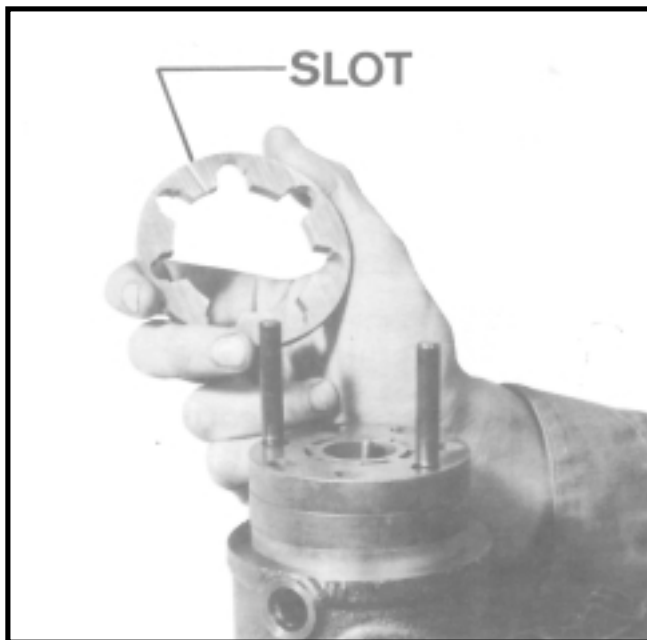
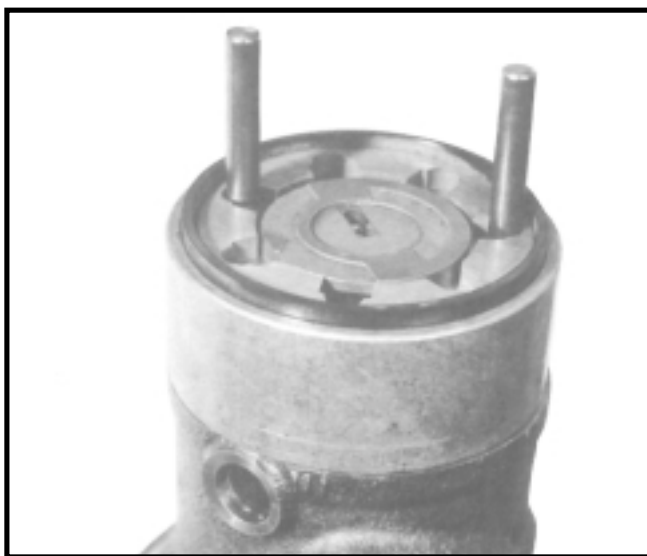

Figure HGA-26
Figure HGA-27
21. Install commutator ring (33) over assembly posts and onto manifold (32), make sure slot side is down. (See Figure HGA-26).
22. Install rotor seal (36) and seal retainer (35) over rotor set (31) and down against housing.
23. To allow for washer (37) assemble commutator (34) with counterbore up into commutator ring (33) with slotted hole in commutator engaging nose of drive link (30). Align commutator outside diameter concentric with inside diameter of commutator ring. (See Figure HGA-27).